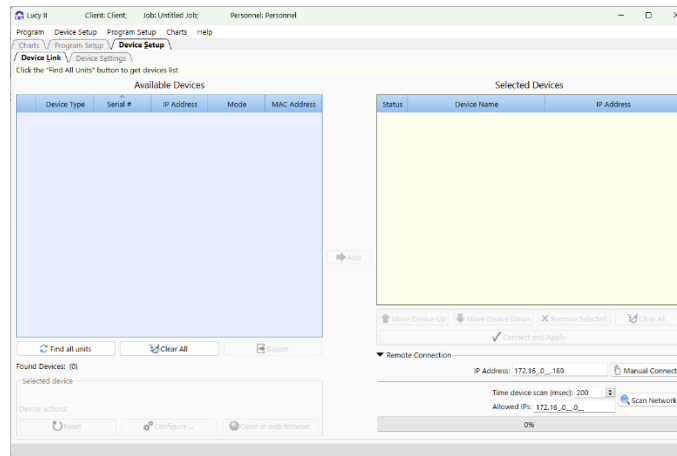

Figure 1-2 Device Setup – Device Link Tab
5. Select tab **“Device Setup”**, then **“Device Link”** (Figure 1-2).
6. Click on the **“Find all units”** button (Figure 1-2) to retrieve a list of the devices on the network. If you need to access to remote devices, see section on: **“Remote Device Connection”**.